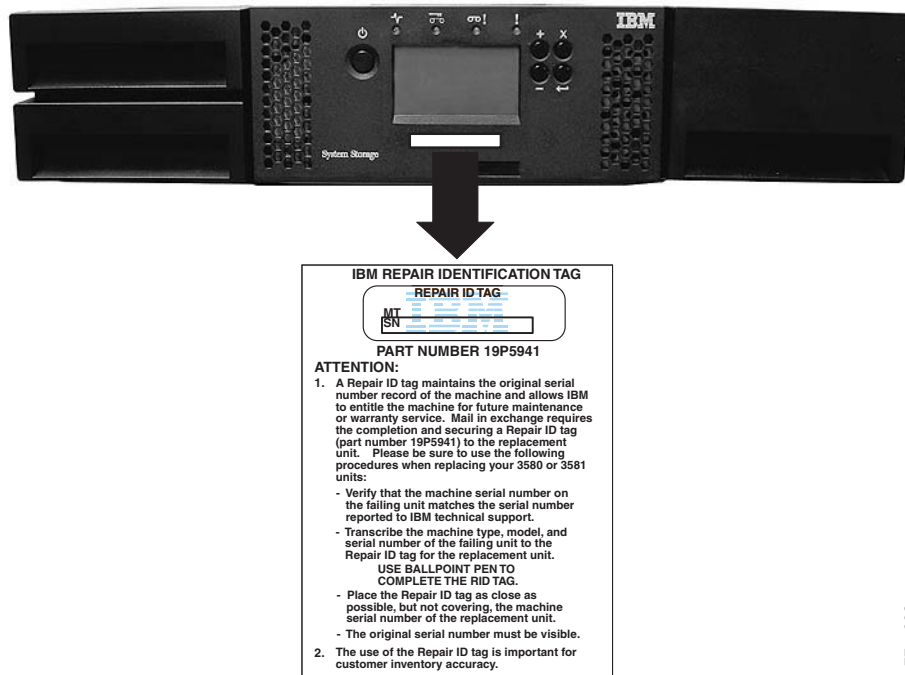

Figure 10-29. Proper placement of the Repair Identification (RID) Tag
- b. Apply the tag to the front of the replacement library enclosure (as shown in Figure 10-29)